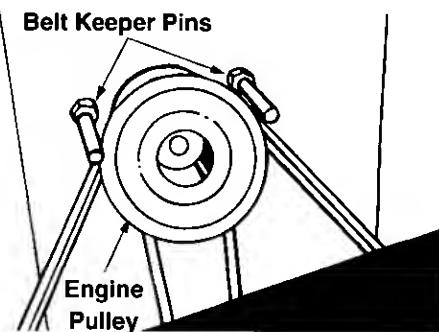
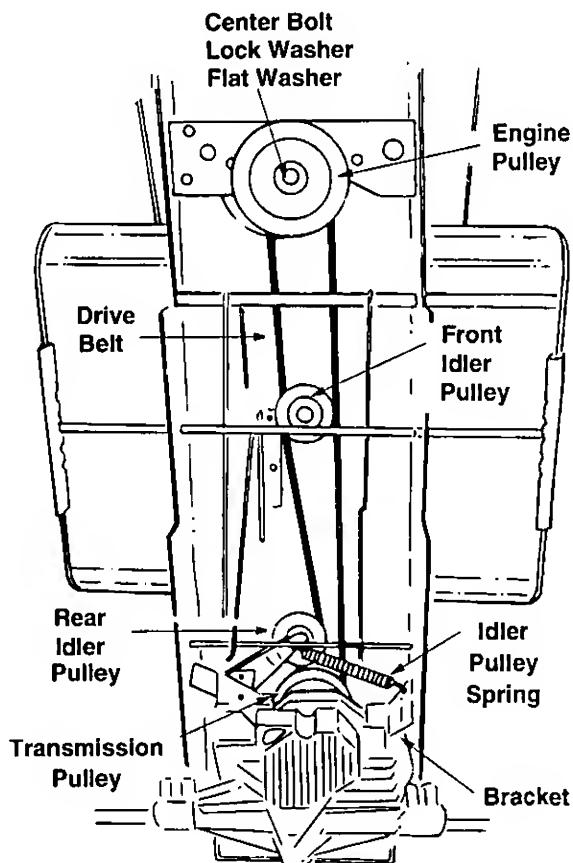

Figure 21
Figure 23
**NOTE:** Figure 21 and Figure 23 are shown with the unit tipped up for clarity. It is not necessary to tip the unit to remove the belts.
3. Remove the belt keeper pins from the lower frame. See Figure 21.
**Note:** When reassembling, make certain belt keeper pins are assembled in same locations from which they were removed. See Figure 21.
### DRIVE BELT (See Figure 23)